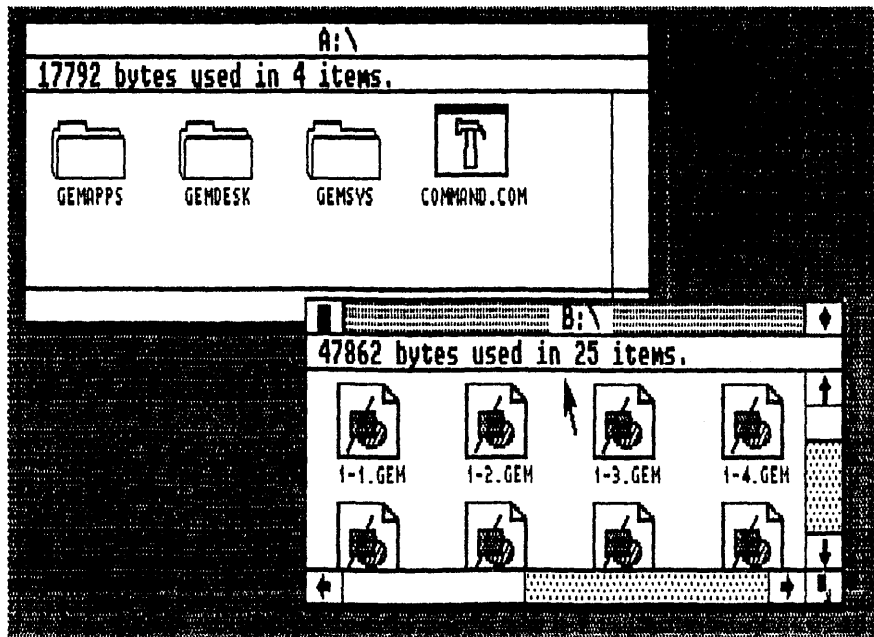

Fig. 1-5. Two open windows are on the desktop. The pointer is inside the active window.
- Activate a window by clicking *anywhere* within its border (Fig. 1-5).